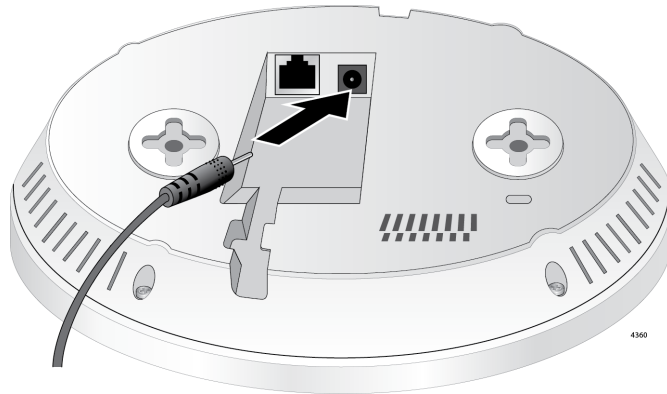

Figure 30. Connecting the AC Adapter
1. Connect the AC adapter into the DC jack on the access point as shown in Figure 30.